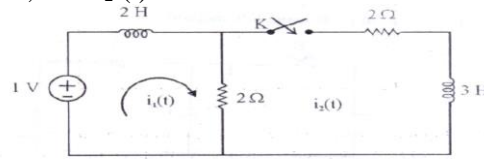

Fig.6.58
31. In the circuit shown in Fig.6.58, find $i_2(t)$ after the switch is closed at $t = 0$, using transformed circuit.